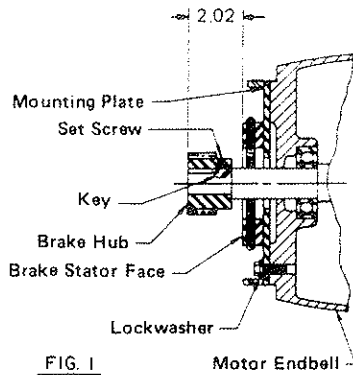

FIG. 1
Position brake hub (915) on motor shaft (see Fig. 1 for installation location). Tighten set screws.